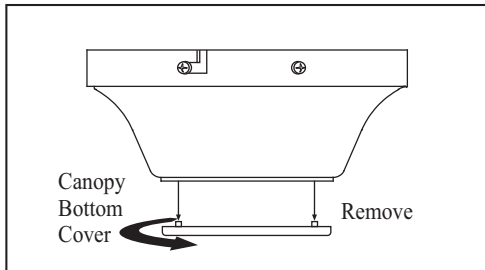

Figure 8
2. Remove the decorative canopy bottom cover from the canopy by turning the canopy bottom cover counterclockwise (Figure 8).